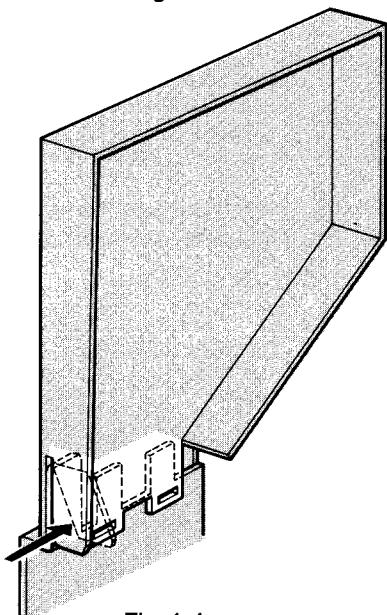

Fig. 1-4
- Fix the box in perpendicular position by bending the lug (Fig. 1-4).